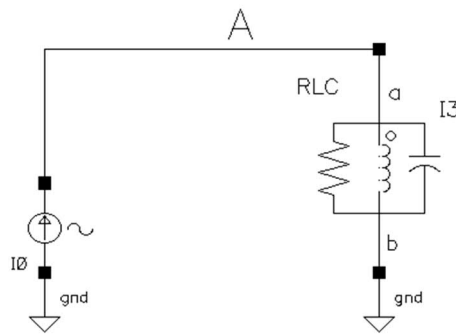

Figure 1. RLC resonator test bench.
- a. To simulate the **verilogA** description of the **RLC** circuit, a test bench shall be used. Create a new cell view **RLC\_Tb** and create a **schematic** view of it. Instantiate a current source **isin** and a ground **gnd** from the library **analogLib**. Instantiate your **RLC** circuit from your own design library. Set the **AC Magnitude** of the current source to 1 (A). The resulting test bench is shown in Figure 1.